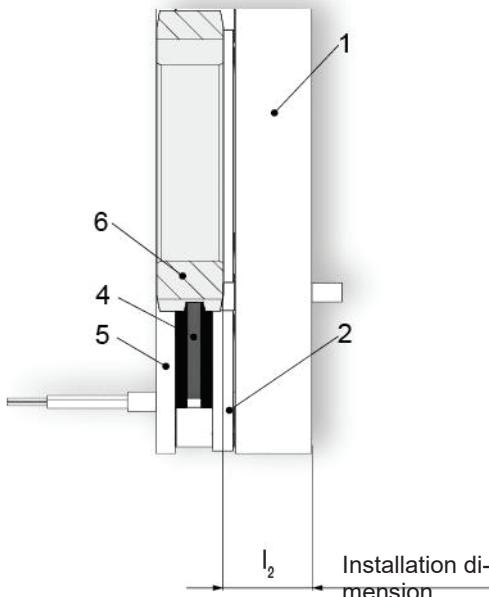

Fig. 3
- Check installation dimension l_2 as per Chapter **5.2.5** and Figure 3.
1. Mount the hub (6) onto the shaft with inserted key, bring it into the correct position as per installation dimension l_2 in Chapter **5.2.5** (Figure 3) and secure it axially.
3. Position the brake with the coil carrier side (1) first onto the motor flange. Please observe the correct position of the tapped holes and strands.